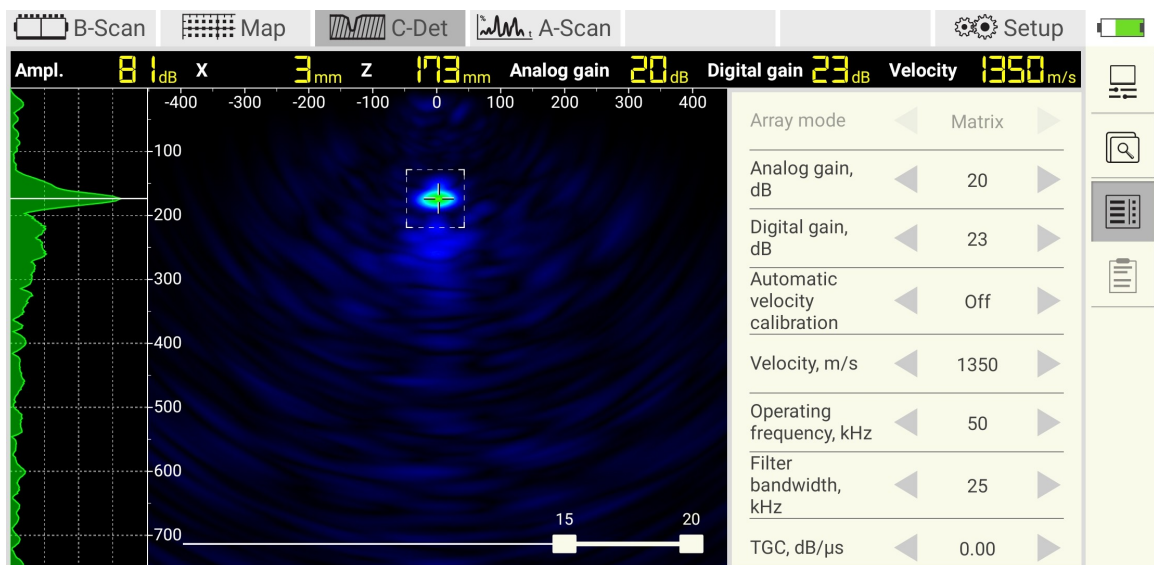

Figure 8: Crack-depth evaluation
- Try to locate the area of interest using the cursor ( Figure 8)